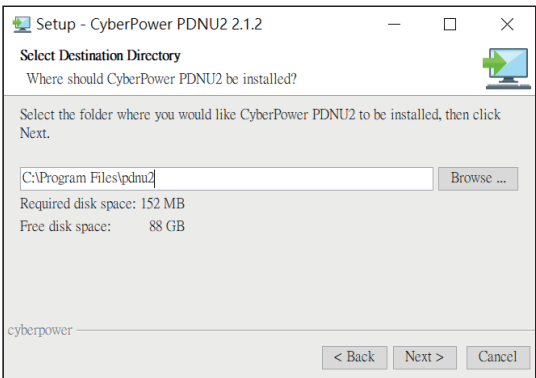

Figure 2
- Step 3. Choose an installation directory. Select **Next** (Figure 2).